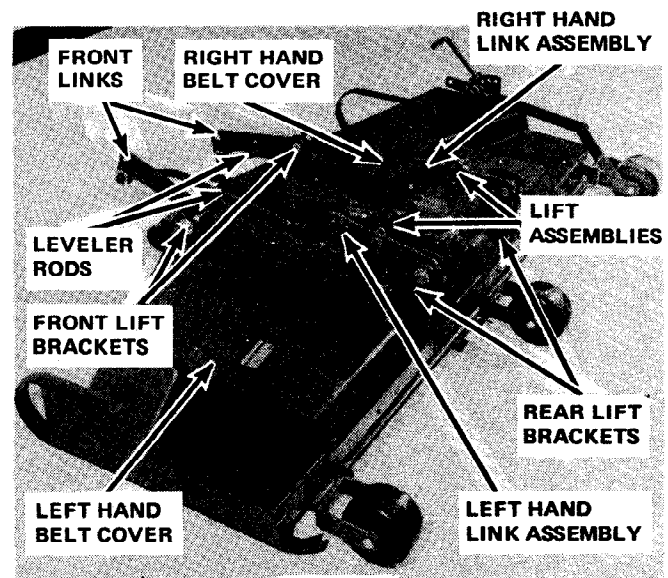

FIGURE 3
B. Attach the two lift assemblies to the above rear link assemblies as shown in Figure 3. Secure with 1/2" flat washer No. 110-7385 and spring cotter No. 172-3478.
4. Attach leveler rods, Figure 3, (hook end forward and down) to lower hole in front hitch arms from inside out with flat washer on both sides of hitch arms, and secure with cotter pins.